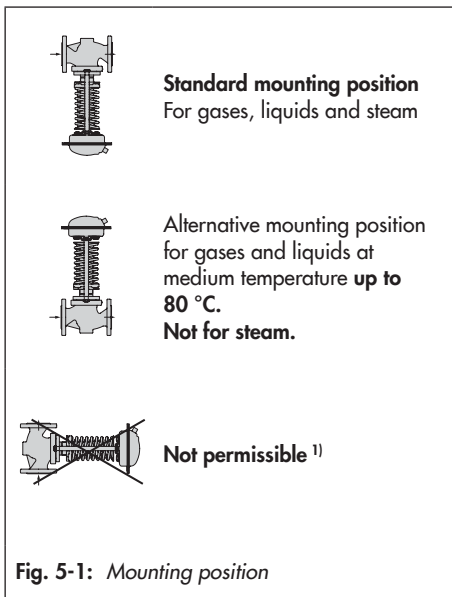

Fig. 5-1: Mounting position
- ➔ Install the actuator housing with the set point springs suspended downward in horizontal pipelines (see Fig. 5-1).